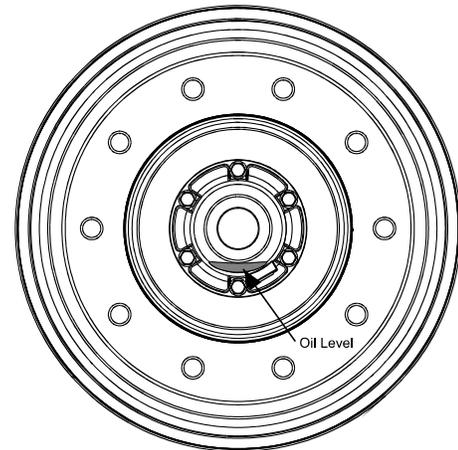

Figure 19 - Wheel Bearing Oil Level
23. Check oil level through the hub cap window. (**Figure 19**). If level is below the “add” level line, then fill with recommended oil until “full” level is achieved. Add oil slowly since the heavy weight oil will settle slowly in the hub.